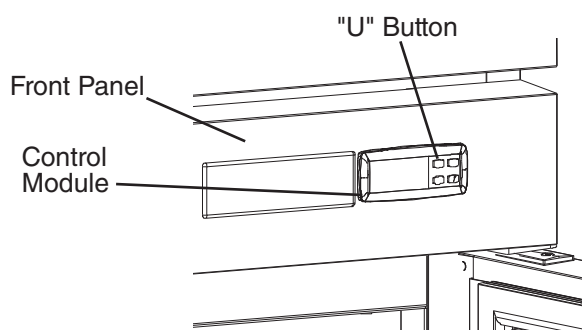

Fig. 26
- 2) If the cabinet temperature is not displayed on the control module, press and hold the "U" button (on/off button) for 2 seconds. See Fig. 26.